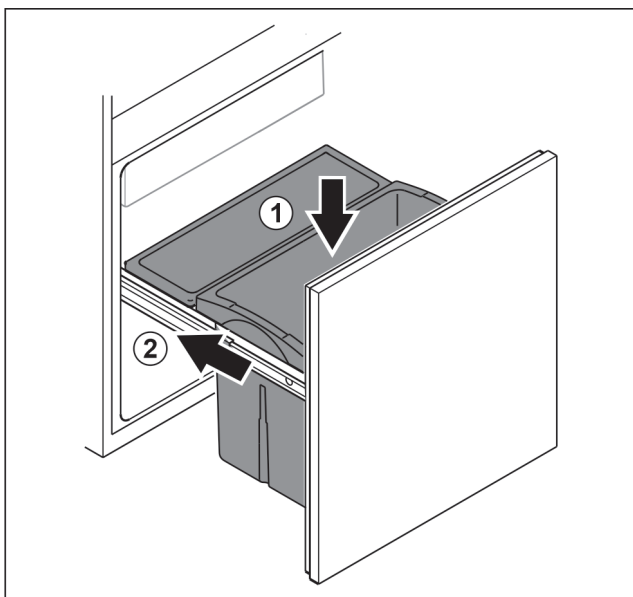

Fig. 88
- ▶ Insert drawer from above. Fig. 88 (1)
- ▶ Slide in pull-out unit. Fig. 88 (2)